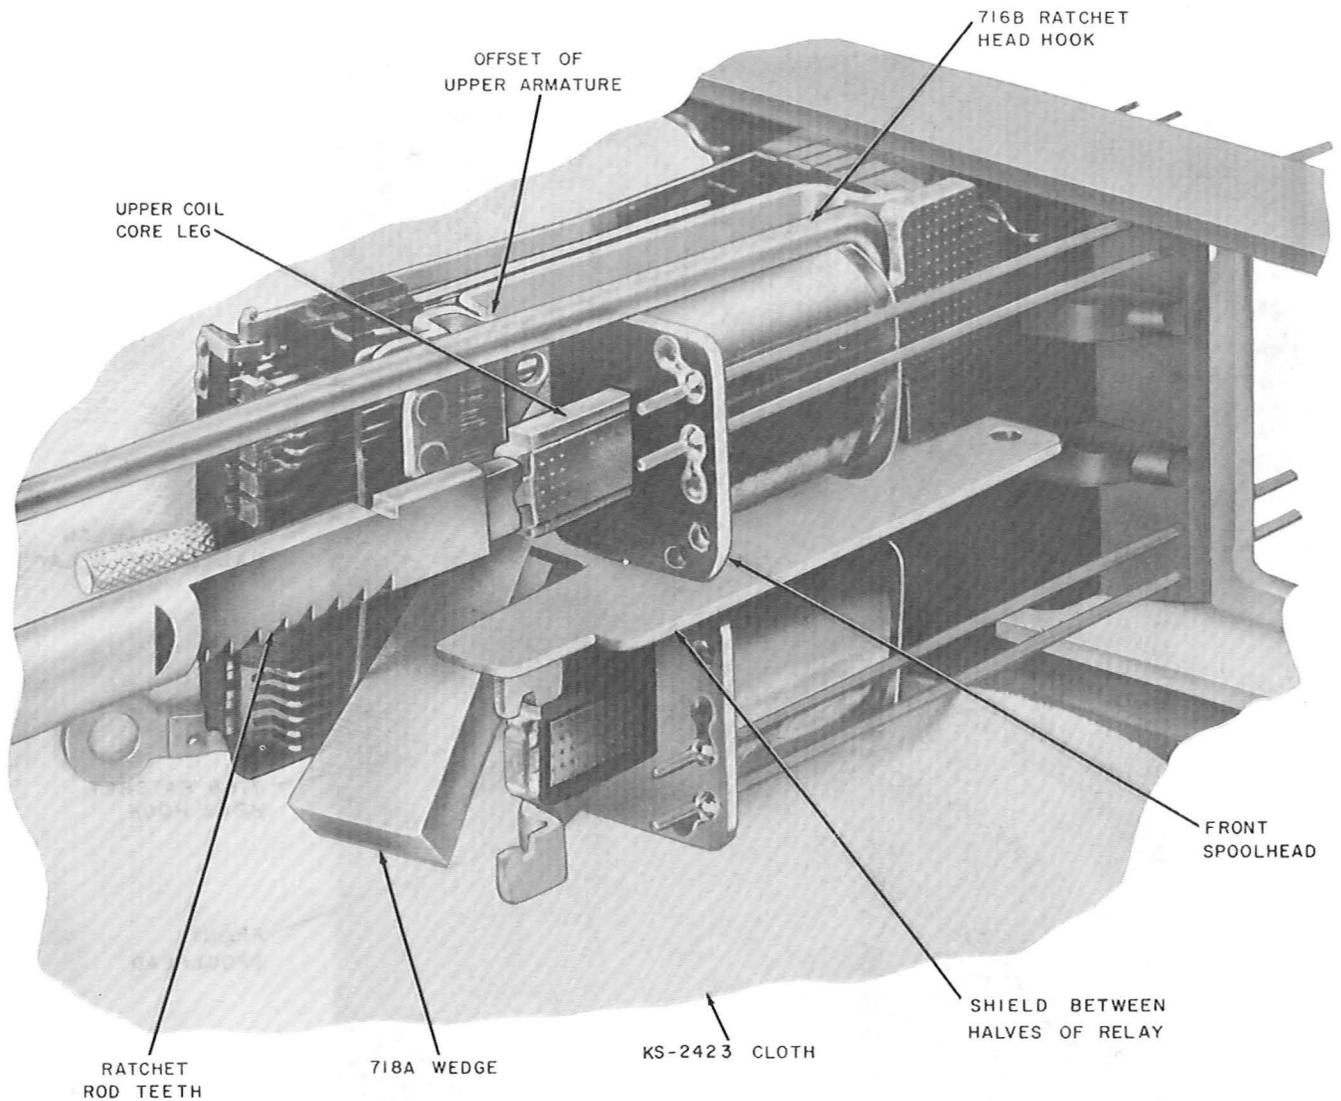
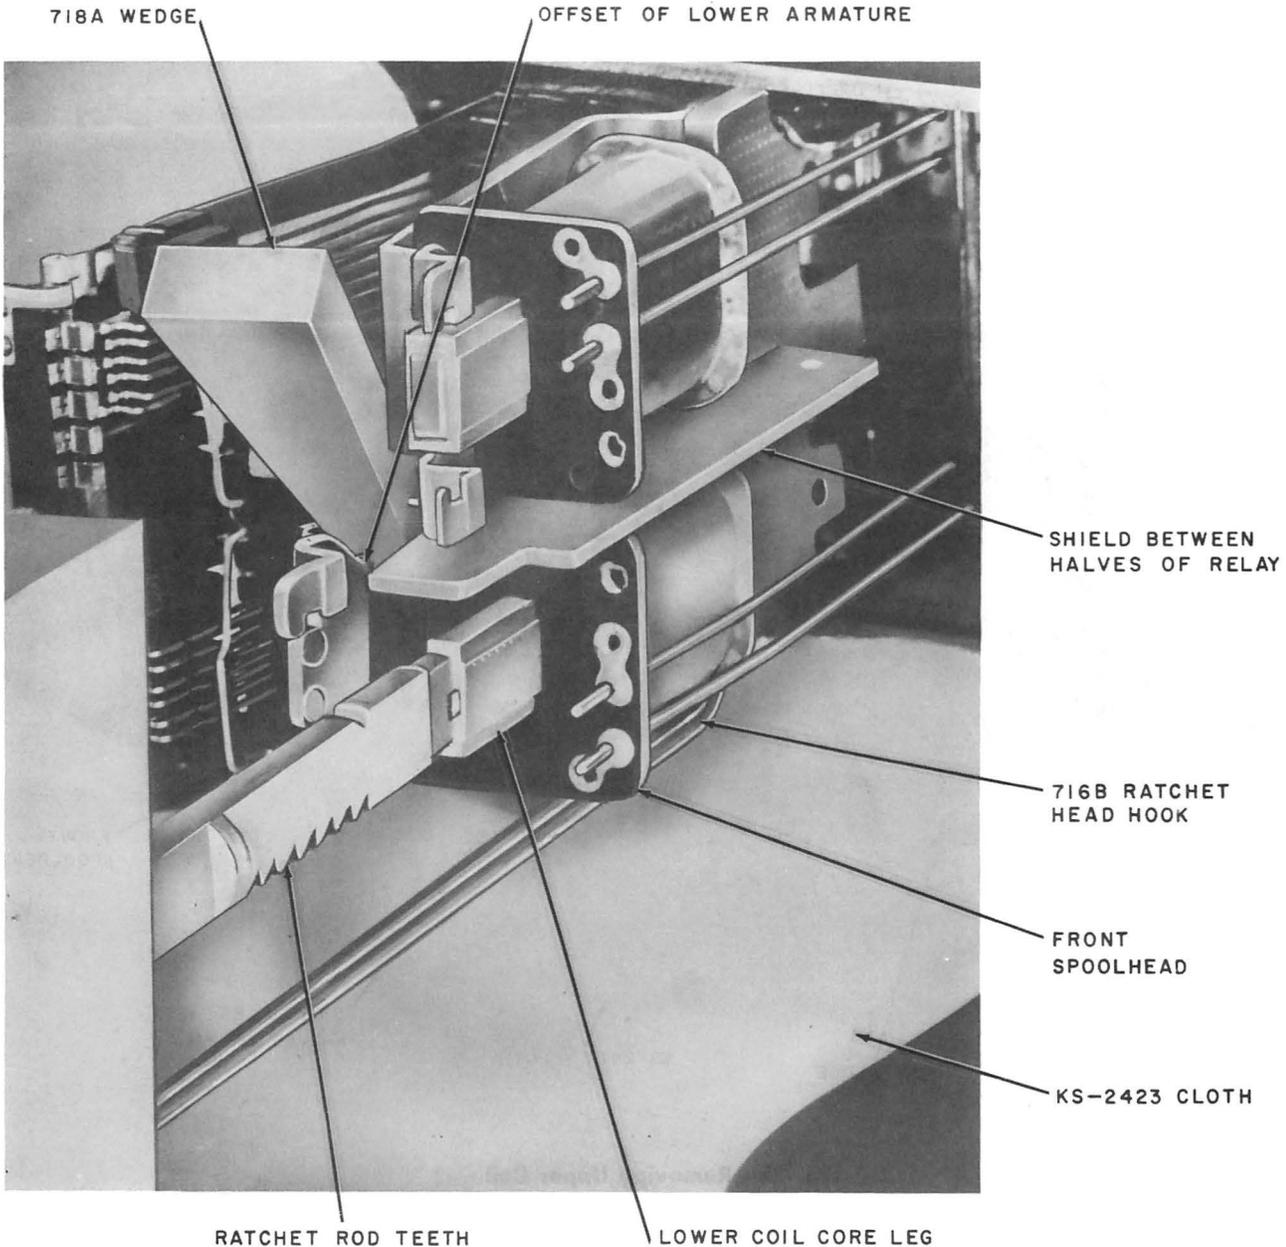

Fig. 32—Removing Upper Coil
Fig. 33—Removing Lower Coil
- (b) Place a KS-2423 cloth as shown in Fig. 32 to insulate adjacent apparatus before inserting the 718A wedge as covered in (c).
relay as shown in Fig. 32 if the upper coil is to be removed and as shown in Fig. 33 if the lower coil is to be removed. To position the wedge for removing the upper coil, manually move the upper armature to the left. Referring to Fig. 32, insert the wedge with the straight side against the shield and the small end toward
the rear of the relay. Move the wedge diagonally upward, behind the offset in the armature adjacent to the front spoolhead, to the position shown in the figure. Insert the wedge sufficiently to permit removal of the coil without interference by the front of the armature. The wedge is positioned for removing the lower coil in a similar manner except that the lower armature is moved to the left and the wedge is inserted from above the shield as shown in Fig. 33.
- (e) Position the insulated hook of the 716B ratchet head behind the rear spoolhead of the coil with the ratchet rod in line with and against the core leg as shown in Fig. 32 for removing the upper coil and as shown in Fig. 33 for removing the lower coil. To do this, hold the tool horizontally with the hook facing to the right. If the upper coil is to be removed, insert the hook above this coil with the tip of the hook approximately in line with the right side of the core leg and just behind the rear spoolhead. Rotate the tool 90 degrees clockwise and draw it forward so the hook engages the rear spoolhead and rests against the right side of the core leg. If the lower coil is to be removed, position the hook in a similar manner by inserting the hook below the lower coil and rotating it 90 degrees counterclockwise. With the hook positioned as described above, hold the tool with the ratchet rod horizontal and advance the rod by pulling the trigger until the end of the rod is against the core leg. Make sure that the rod is in line with and touches the end of the core leg. Advance the rod by pulling the trigger until the coil is off the core leg. Withdraw the tool with the coil.